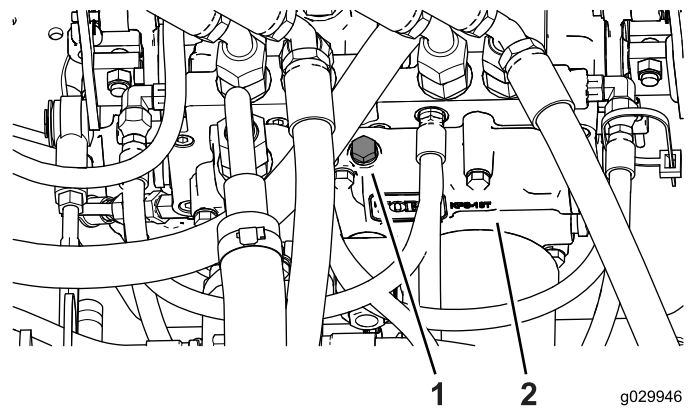

Figure 11
1. Locate and remove the threaded plug on the hydraulic transmission (Figure 11).